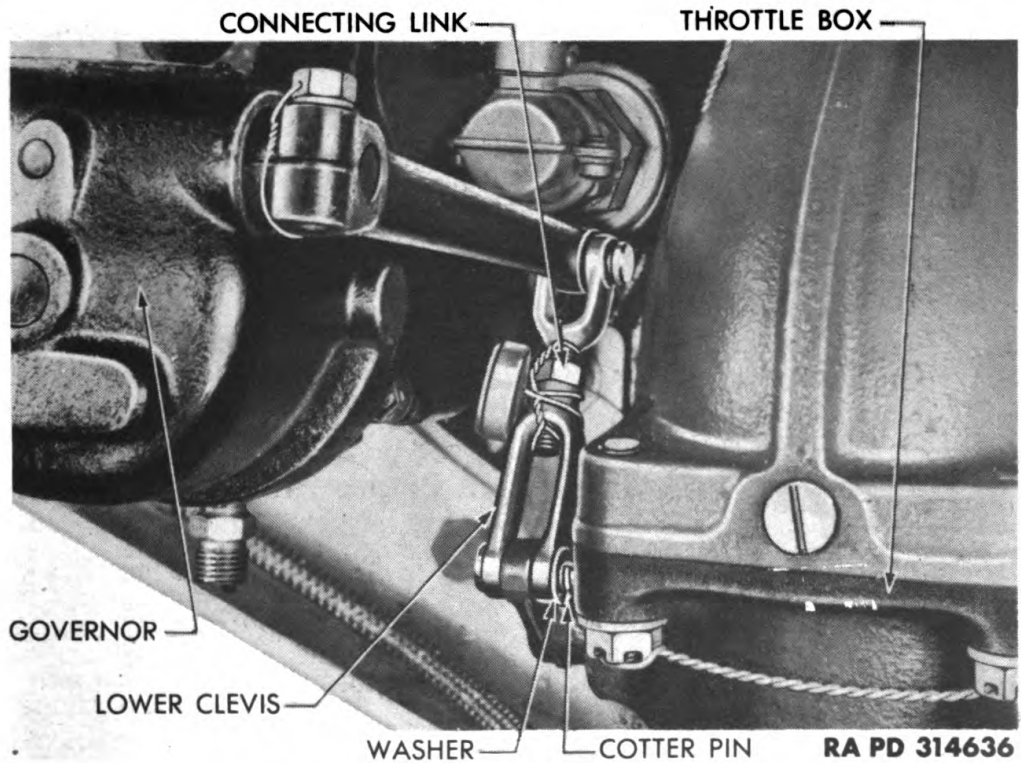

Figure 26 – Governor Linkage
f. Remove Throttle Box. Remove cotter pin from lower clevis pin of linkage connecting governor and throttle box. Pull out clevis pin and remove washer (fig. 26). Cut and remove safety wires. Remove four nuts and washers from studs which secure throttle box to carburetor elbow. Lower throttle box and gasket, and remove from studs on carburetor elbow.